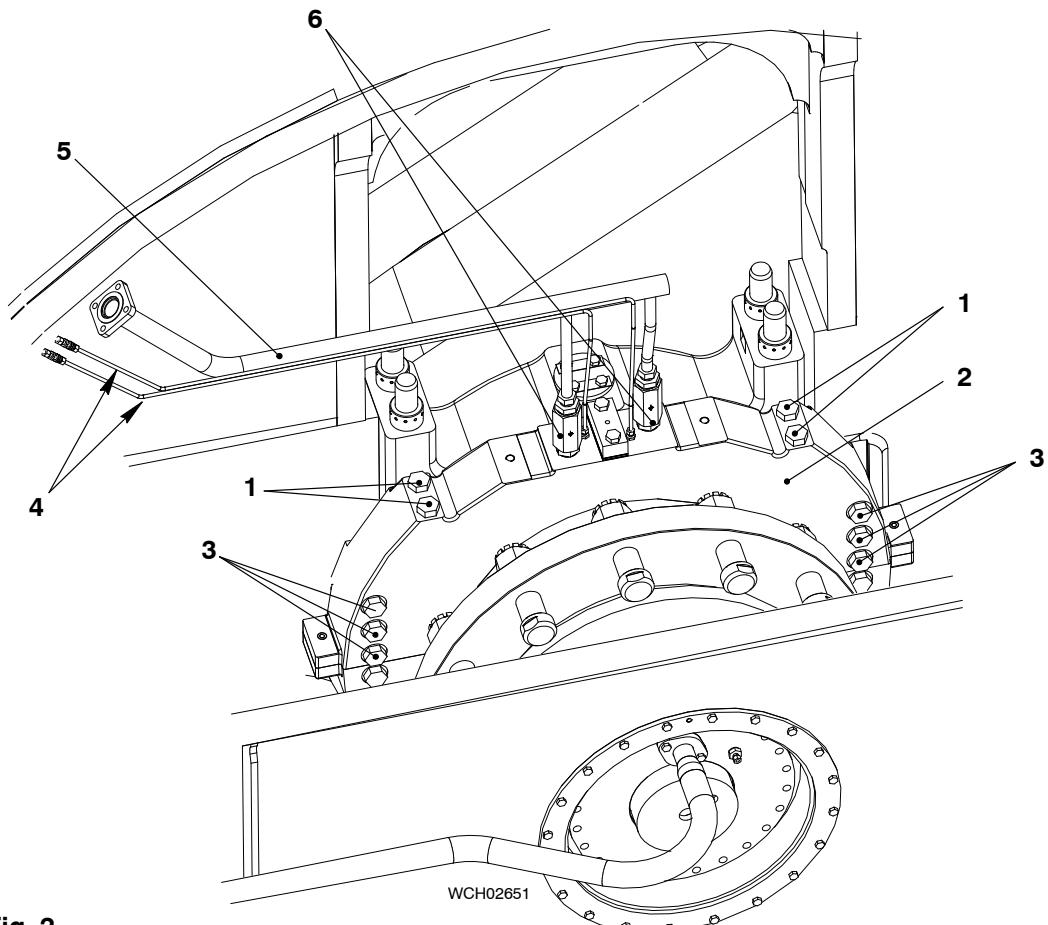

Fig. 2
- 1) Remove the two pipes (4, Fig. 2).
- 2) Remove the oil inlet pipe (5) and the two non-return valves (6).
- 3) Remove the six bolts (3).
- 4) Remove the four bolts (1).